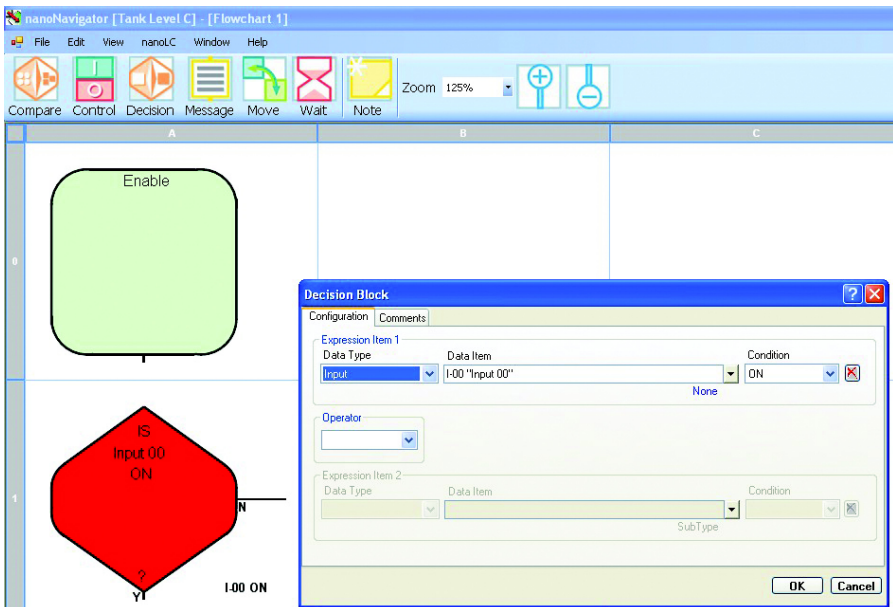

Figure 1-6 Decision Block dialog box for cell A1
4. Enter data in the various fields in the dialog box as shown in Figure 1-6. Click the “OK” button when finished.